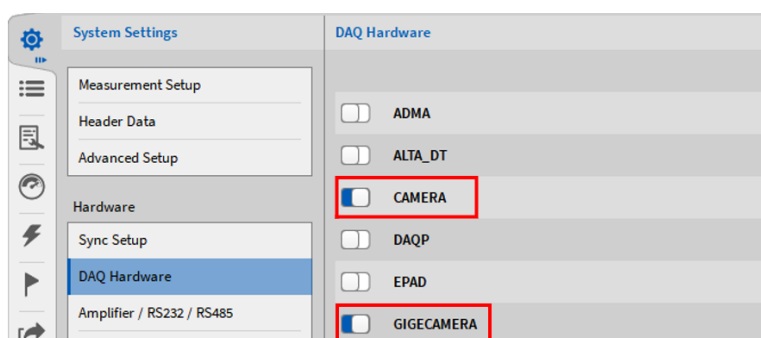

Fig. 8.83: Enabling the Camera Series and the GigE Camera series in the DAQ Hardware setup
**Note:** If the camera channel does not appear in the Channel List although a camera is connected to the measurement system, make sure that *CAMERA Series* for webcams or the *GIGECAMERA Series* for GigE cameras are enabled in the *DAQ Hardware* setup (see Fig. 8.83) in the *System Settings*.